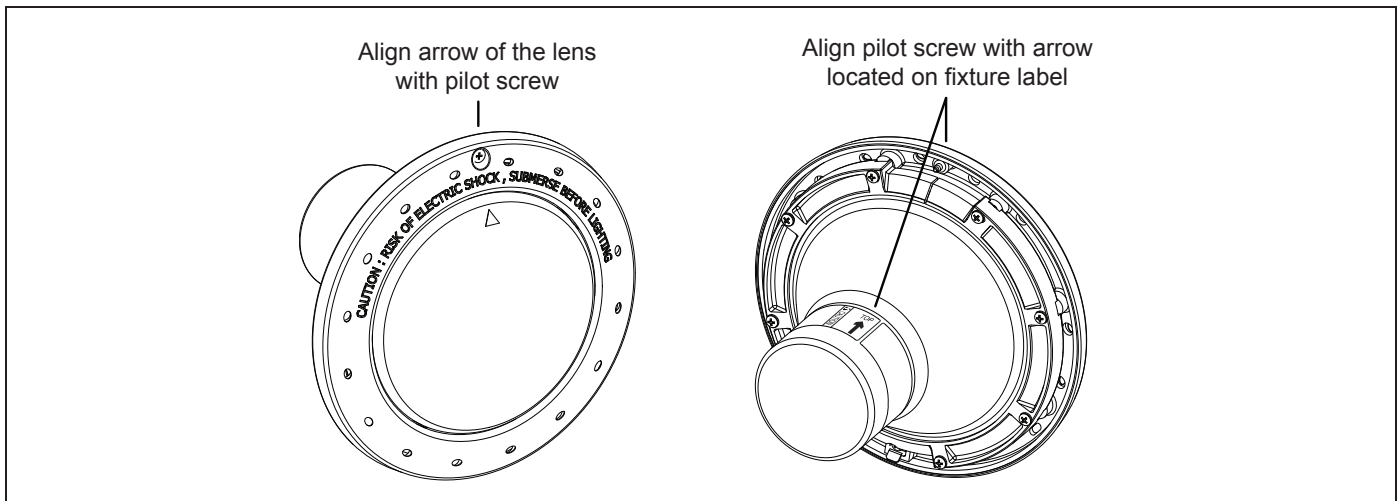

Figure 2. Alignment of the Lens, Face Ring, Housing and Clamps for Pool White Lights
| Figure 2. Alignment of the Lens, Face Ring, Housing and Clamps for Pool White Lights.....7 | |
- c. Position the lens and gasket on the fixture. Place the face ring and the top clamp over the lens and align the pilot screw with the small arrow mark on the face of the lens. Note that the small arrow mark on the face of the lens and the pilot screw of the face ring must be aligned with the arrow located on fixture label that reads, “Arrow on this label must line up with the pilot screw on the Face Ring”. See Figure 2.
- e. Spread the bottom clamp over the electrical cord and slide it onto the back of fixture to the top clamp. See Figure 2.
- f. Tighten the eight (8) Phillips head screws for pool light or the six (6) Phillips head screws for spa light in alternating cross-pattern. Torque screws to approximately 20 in-lbs. Do not over-tighten.
- a. Coil four (4) feet of cord around the fixture and place the light assembly into the niche.